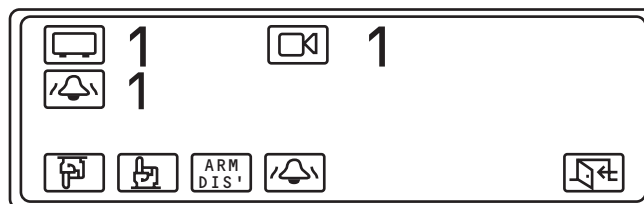

Figure 73. Alarm Menu
1. From the Main Menu, enter the logical number of the required alarm and select . The Alarm Menu appears on the LCD display. Figure 73 shows alarm number 1.